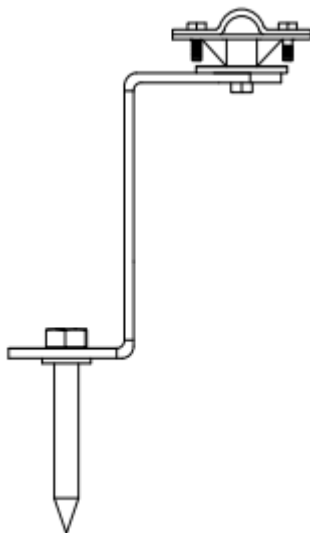

Figure 2.
- Install the PR-bracket plate by placing it onto the edge of the roof seam protrusion such that the PR-bracket plate is in a vertical position (Figure 2).
- Screw the PR-bracket plate to the roof using 2 M8x60 mm screws and 2 M8 rubber washers (Figure 2).
- Tighten the screws such that the Z-bracket plate holds firmly on the roof material (Figure 2).
- Install the safety cable fasteners on top of the Z-bracket plate and screw them together using the M8x20 screw (Figure 2).